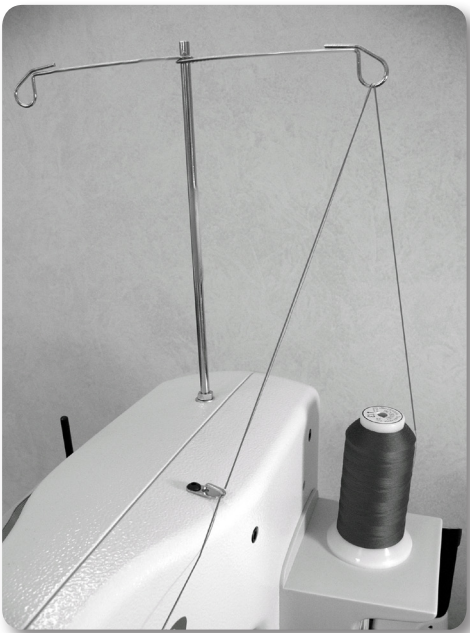

Figure 12
**Note:** The eyelets of the thread mast **MUST** be centered over the spool pins. This ensures that the cone of thread will not pull, turn or tilt, causing thread tension problems (see Figure 12).